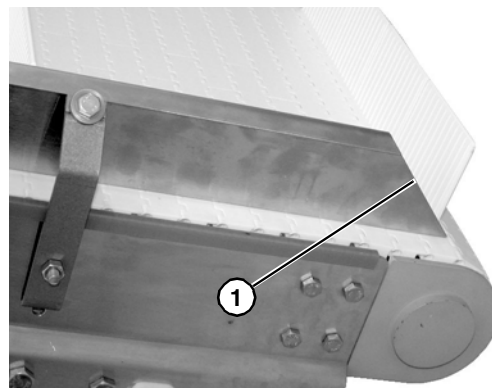

Figure 41
*When installing guides, be sure that the angled end of guide is installed on the idler end of conveyor (**Figure 41, item 1**).*